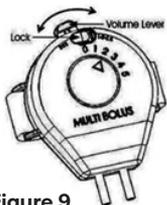
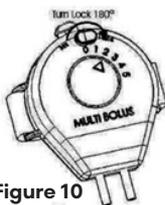

Figure 9
Figure 10
6. Select the MultiBolus volume by aligning the arrow with the digit by moving the lever. See figure (see Figure 9), secure the selected volume by turning the lock 180° (see Figure 10)